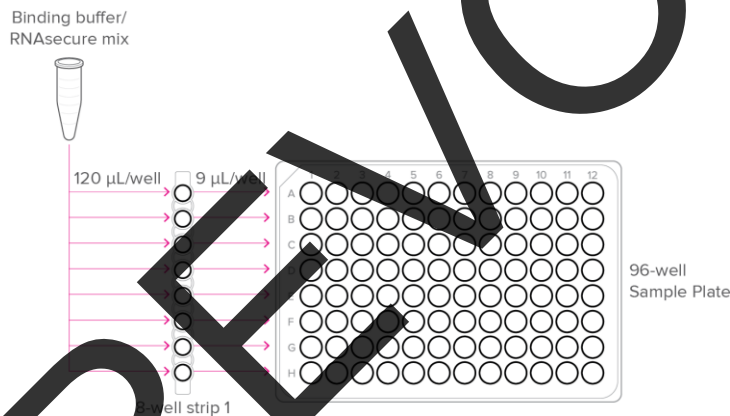

Figure 2. Binding buffer/RNasecure mix pipetting map
- 4 Using an 8-channel pipette, distribute 9 μL of binding buffer/RNasecure mix to each well of a new, labeled 96-well plate and store on ice or in a cold block until ready to prepare the control and sample mixes (Figure 2).